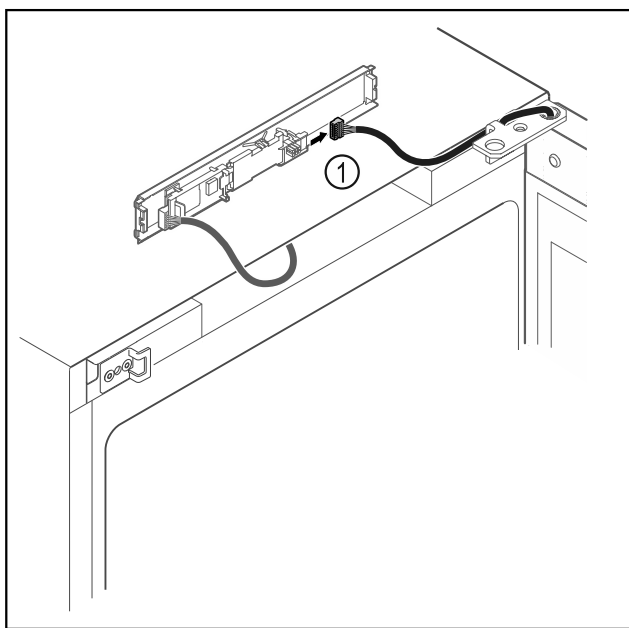

Fig. 17
- ▶ Disconnect the plug Fig. 17 (1) from the circuit board.